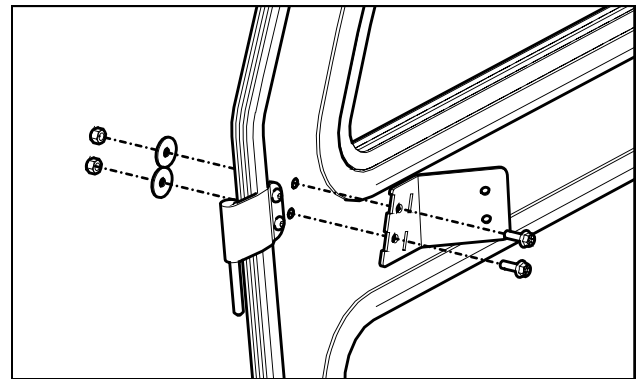

Fig. 2.2
- 2.2 Install mounting adapter to driver's side door of the cab through holes where dome plugs were removed, using 1/4-20 x 3/4" long screws, 1/4" x 1" fender washers, and 1/4-20 lock nuts. See figure 2.2.